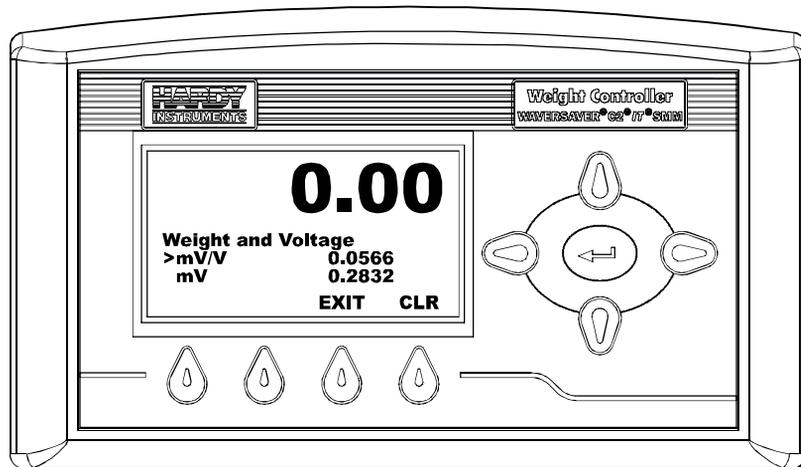

FIG. 398 WEIGHT AND VOLTAGE TEST/MV/V AND MV READING
Step 15. Press the Enter button to perform the test. The results appear. (See Fig. 398)